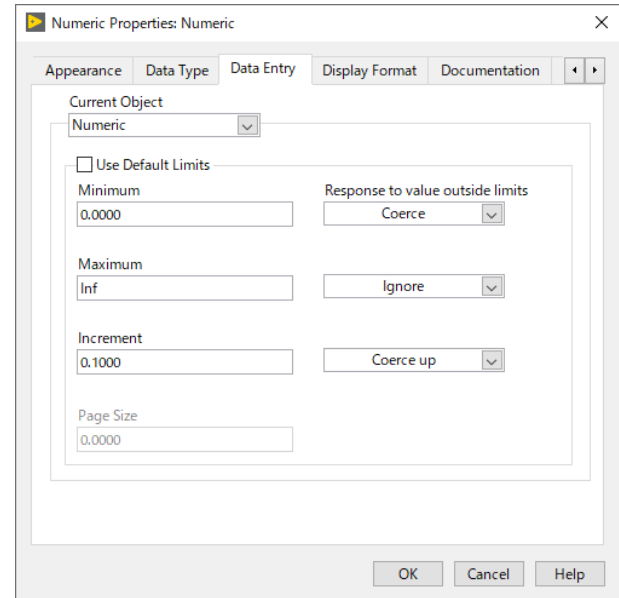

Figure 3-35 Properties for Numeric Control
By the way, we are currently able to input negative values into forward voltage, but this is a little strange. Because forward voltage is the minimum voltage needed to light the LED, it will never be negative. In LabVIEW, we can limit the value to be inputted into a control. Right-click on **“Forward Voltage (V)”** control and select **Properties** at the very bottom of the right-click menu. When the properties window is displayed, select **Data Entry**. Click **Use Default Limits** checkbox to uncheck it. Change **Minimum** to **“0”** and **Response to value outside limits** to **Coerce**. With this setting, the minimum value of forward voltage is now 0 and if any value lower than 0 is inputted, it will automatically become 0. For convenience, make the value of Increment **“0.1.”** Press the OK button to close the Properties window and check the control behavior. Notice that value will never become lower than 0 and when you click the up or down arrows on the left of the control, it will change by 0.1 (**Figure 3-35**). This is often forgotten since it is not directly shown on the block diagram, but it is very important to **“set the value allowed to be inputted.”** Making the program easier to use will raise the reputation of your program. By limiting the value that users can input, the program will not